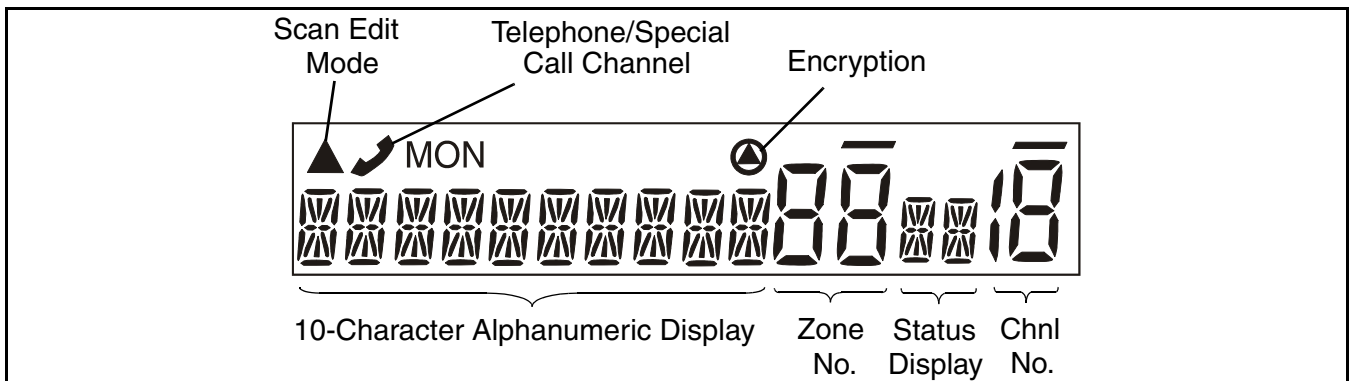

Figure 2-3 Front Panel Display
**Select Switch** - Selects zones/channels and is also used for other functions such as selecting names from a call list. When selecting zones/channels, a bar above the zone or channel display (see Figure 2-3) indicates which is being changed. This bar is switched between displays by pressing this switch, and zone and channels are selected by rotating it (see “Zone/Channel Select” on page 14).